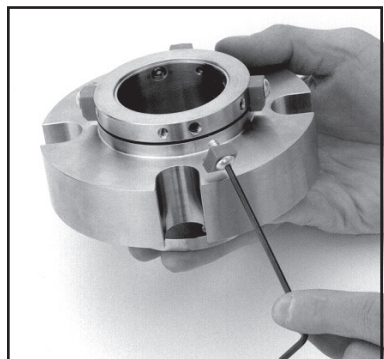

Figure 17
4.3.11 **Install the centering tabs** by pressing the gland ring down to compress the springs. Locate the tab lips into the gap between the gland and sleeve collar. See Figure 17.